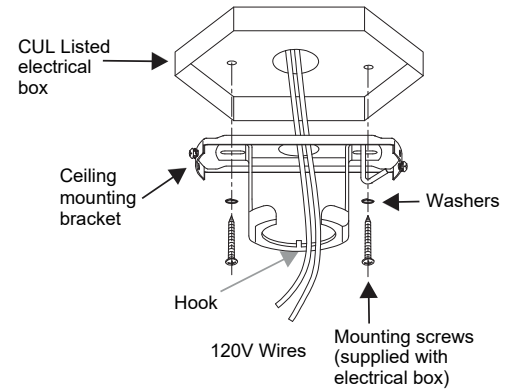

Fig. 5
Step 1. Pass the 120-volt supply wires through the center hole in the ceiling hanger bracket as shown in **Fig. 5**.